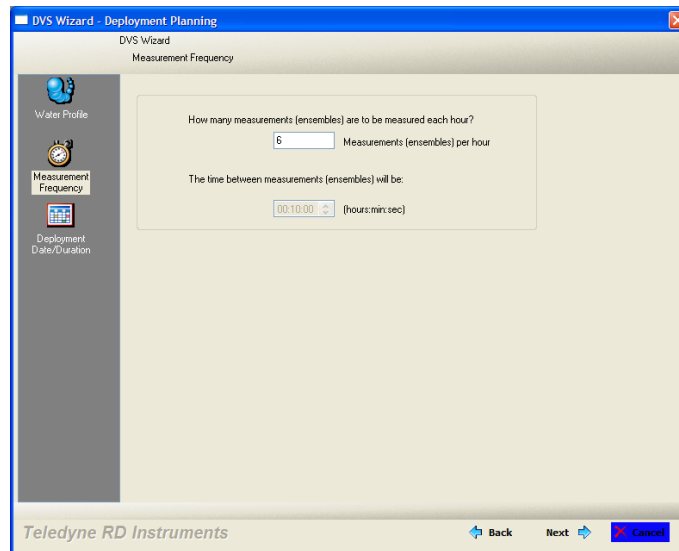

Figure 8. DVS Wizard – Measurement Frequency
- i. Select how many ensembles per hour you want to record (Figure 8). The DVS software will automatically set the time between ensembles. Click **Next**.